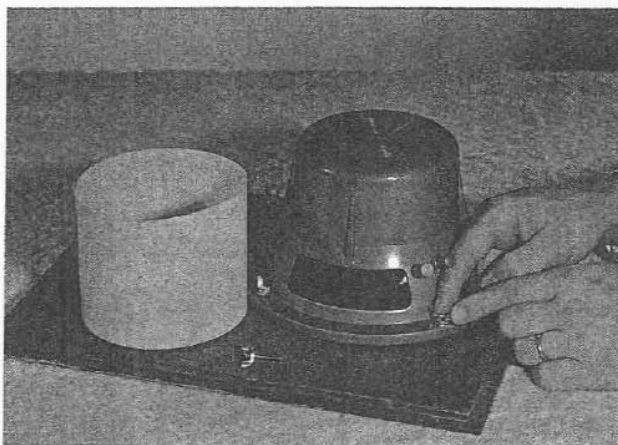

Figure 2A
- Insert each speaker screw assembly through a mounting hole in the speaker frame and turn into threaded insert of baffle being careful not to "bottom" screw point to grille cloth. Place finger on screw head (Figure 2A) with enough pressure to prevent it from turning, and tighten wing nut securely against speaker frame.